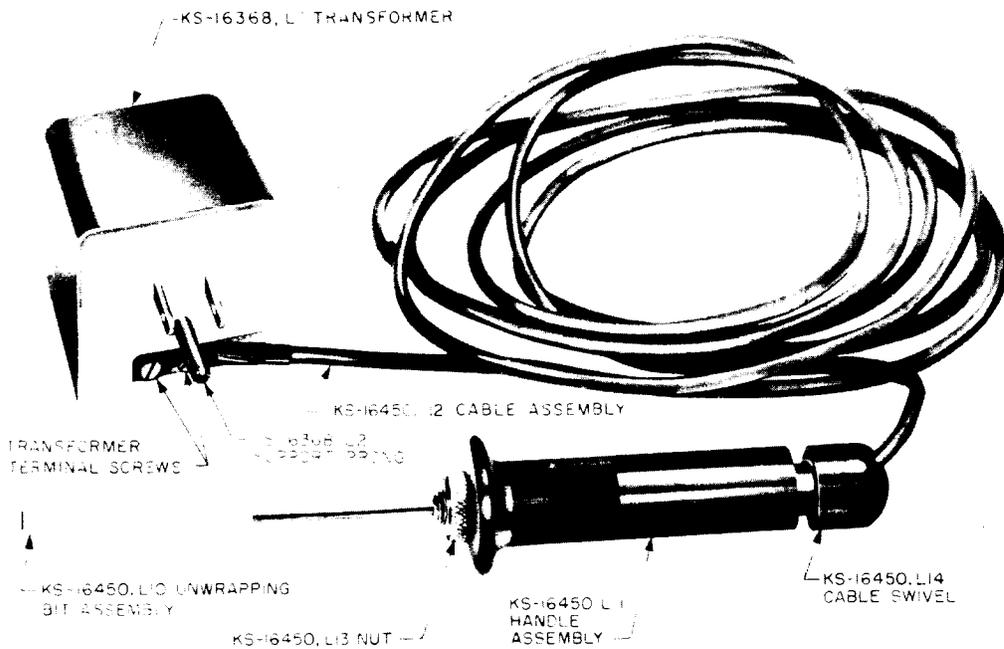

Fig. 1—KS-16450 L1 Wire Unwrapping Tool
1.02 This section is reissued to revise Fig. 1 by showing a KS-16368 L3 transformer instead of a L1 and to revise the List of Tools.
3.02 *Handle Assembly*—Fig. 1 and 2
(1) Remove the handle-locking nut using the B combination pliers, if necessary, to loosen the nut. While holding the cable swivel, carefully pull the handle towards the shank and remove the handle assembly.
(2) Mount the new handle assembly and finger tighten the locking nut.
3.03 *Unwrapping-Bit Assembly*—Fig. 1 and 2
3.04 *Cable Assembly*—Fig. 1 and 2
- (2) Remove the handle as covered in 3.02(1).
- (3) Using the KS-14440 L17 soldering copper and B-long-nose pliers, disconnect the cable-assembly leads from the swivel case ground and stationary contact terminal.
- (4) Using the 3-inch C screwdriver, lift the cable grips that secure the cable to the swivel case just enough to release the cable. Remove the cable-swivel mounting screw with the screwdriver and remove the cable swivel and cable assembly. Then pull the cable out of the cable swivel.
- (5) Referring to Fig. 1, connect the new cable assembly to the transformer, connecting the lead with the terminal lug to the terminal on the right. Securely tighten the screws.
3.05 Transformer—Fig. 1